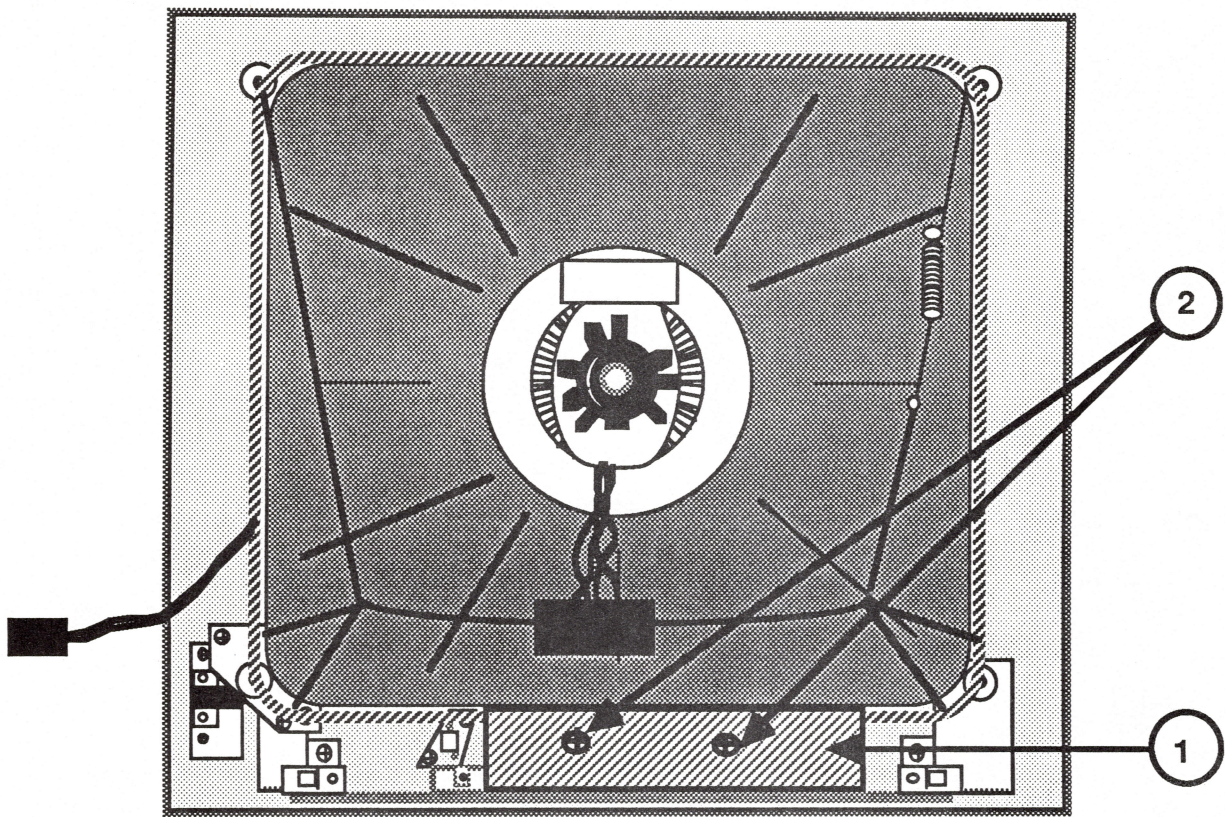

FIGURE 20
6. Locate the control PCB (Figure 20, #1).
7. Remove the two mounting screws (Figure 20, #2).
4. Replace the two control PCB mounting screws (Figure 20, #2).